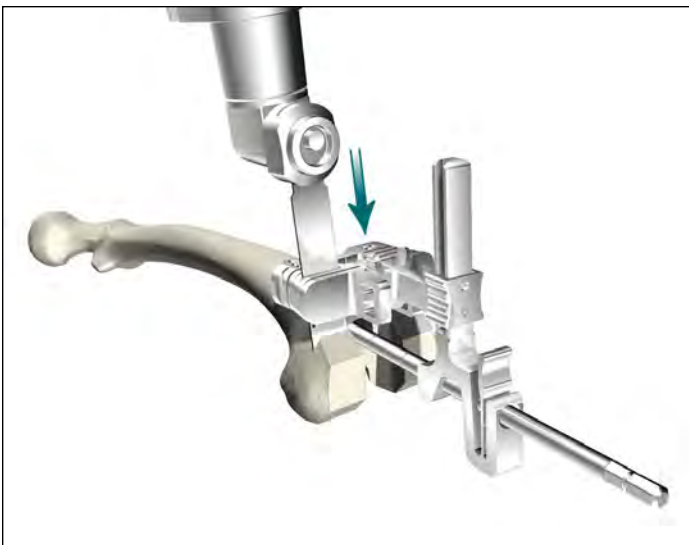

Figure 21
- Resect the distal femur. Five, 10 and 15mm distal augment resections can be made at this point with the Revision Distal Resection Guide (**Figure 21**).